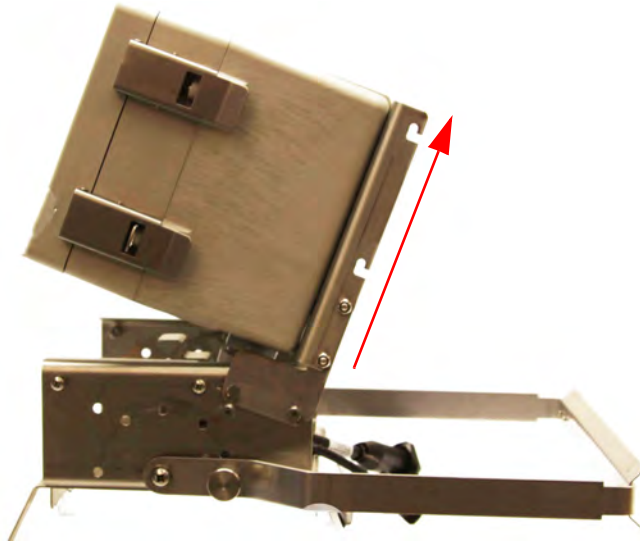

Figure 4-4 Signature tilted up in preparation of removal
3. Once the four flathead screws are loosened, rotate the meter toward the back and lift straight up to remove it from the stand (Figure 4-4).